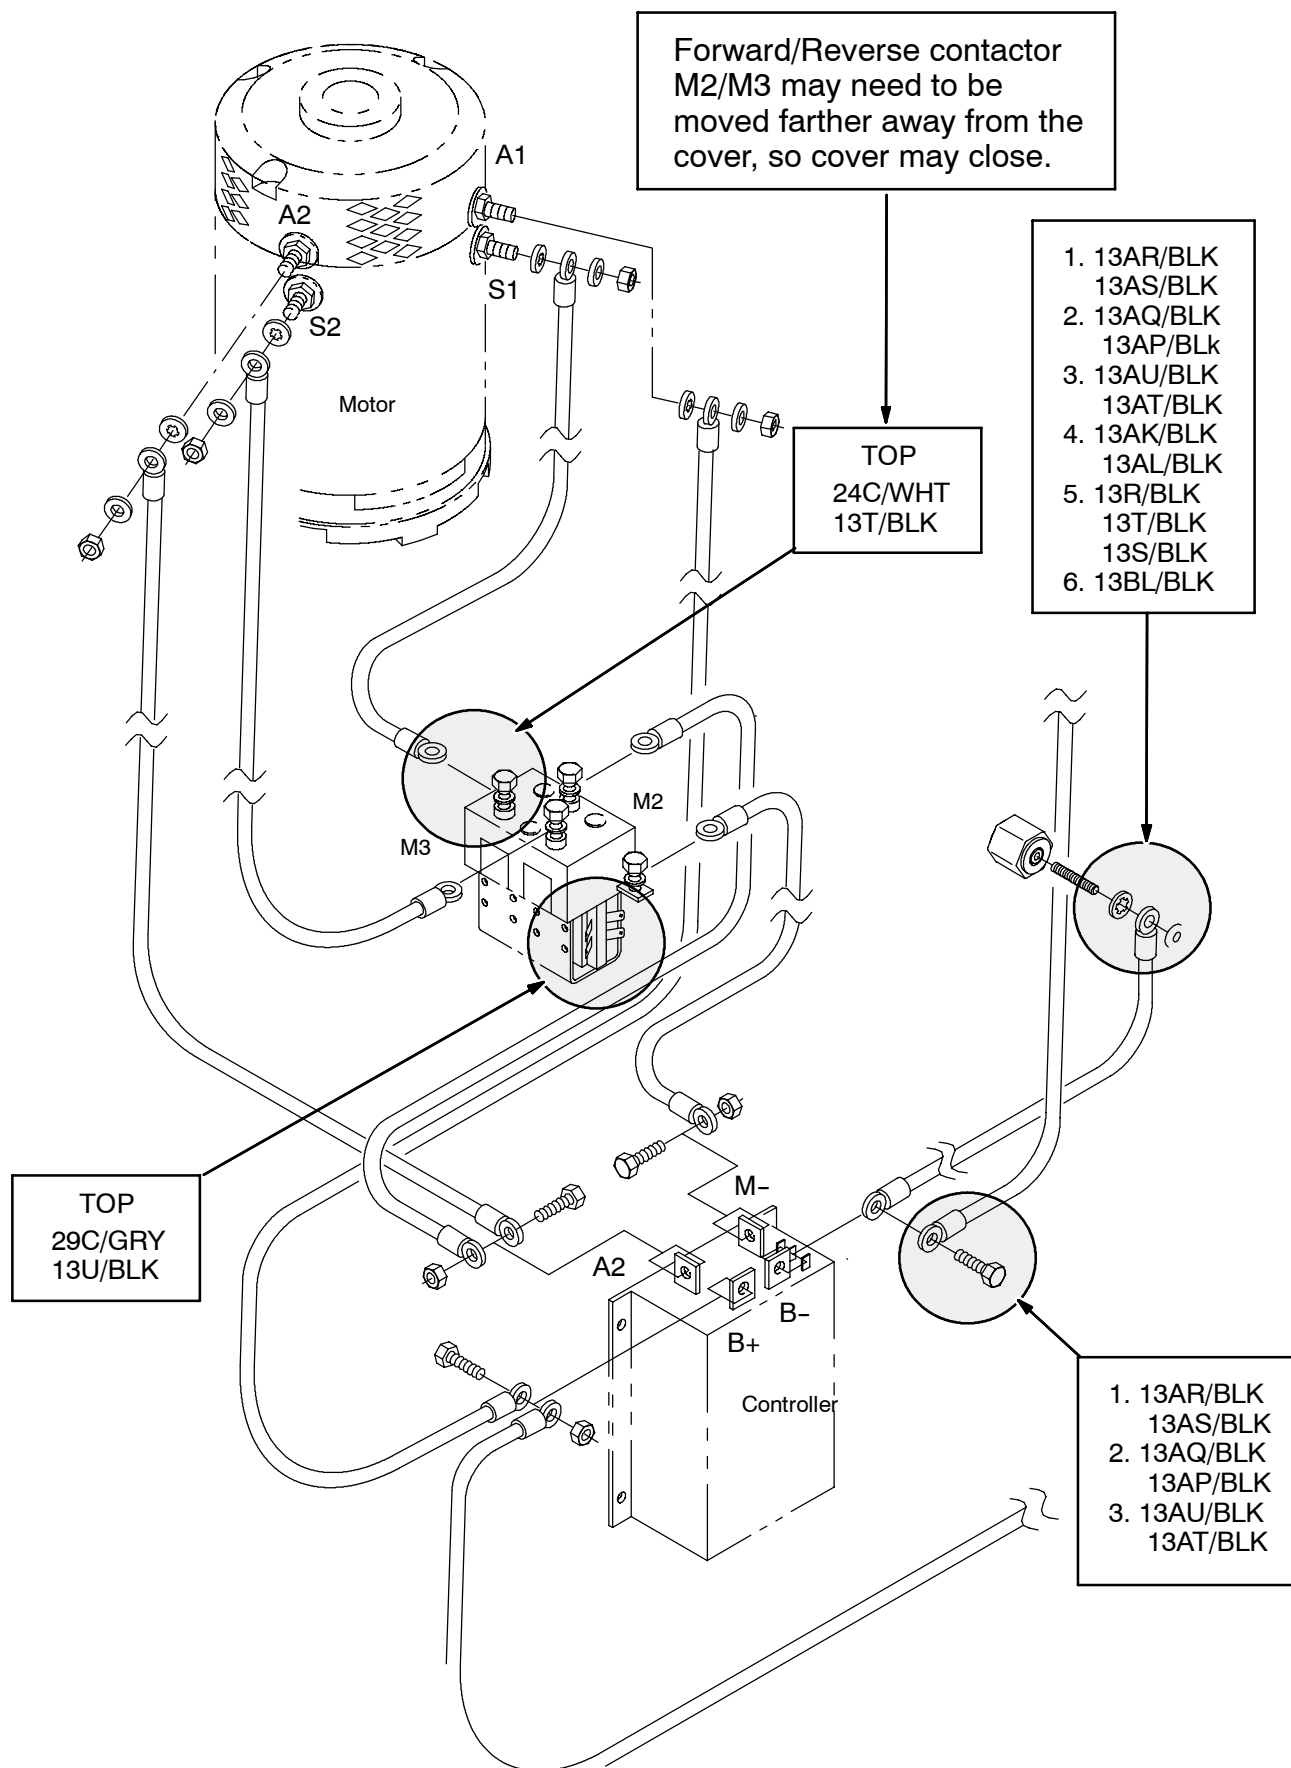

FIG. 3 - New Control Box Wires Group
The forward contactor coil terminals are on the right side of new M3 contactor, and the reverse contactor coil terminals are on the left side. On each side, the top two terminals are internally connected to the positive side of the contactor coil, and the bottom two terminals are internally connected to the negative side of the contactor coil. (Refer to FIG. 3)
15. Using another diode harness (370156), connect blue lead to the open terminal of harness wire 29C/GRY. Connect the orange lead of the second diode harness to one of the top terminals for the reverse contactor coil. (Refer to FIG. 3)
20. Route the new cable 386804 from the propel motor **S2** terminal and connect to the front, left post, on top of the large contactor. (Refer to FIG. 3 and 5)
(Refer to FIG. 3 and 5)
26. Connect the open end of the second 387641 wire from the propel motor controller post **M-** terminal, to the remaining post extending out the left side of the reversing contactor. (Refer to FIG. 3 and 5)